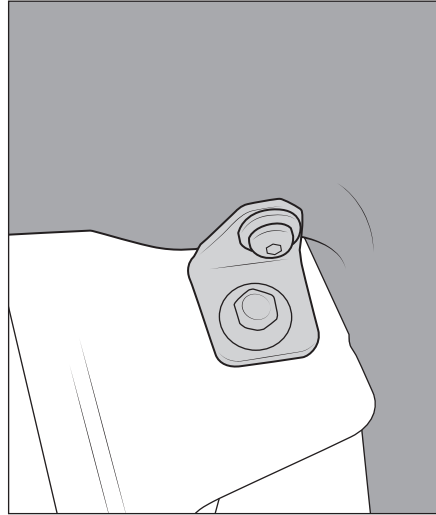

Figure 11
6. Install the front mounting bracket using the front fender bolt. Place bracket over fender hole, loosely reinstall fender bolt, and bolt bracket into snorkel threaded insert with provided M6 bolt and washer (fig. 11). Tighten both until snug, but not fully torqued. Adjust lower snorkel body and brackets so that they sit evenly with fender and cowl, without excessive gaps or any paint contact. Once snorkel is properly positioned, tighten front M6 bolt going into snorkel body to **100 in-lb.**